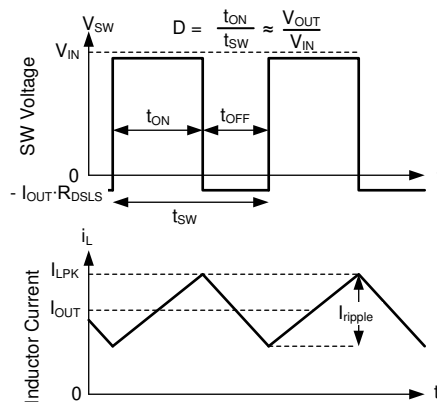

图 9-16. SW Voltage and Inductor Current Waveforms in Continuous Conduction Mode (CCM)
The following operating description of the LM61460-Q1 refers to 节 9.2 and to the waveforms in 图 9-16. In CCM, the LM61460-Q1 supplies a regulated output voltage by turning on the internal high-side (HS) and low-side (LS) NMOS switches with varying duty cycle (D). During the HS switch on-time, the SW pin voltage,  $V_{SW}$ , swings up to approximately  $V_{IN}$ , and the inductor current,  $i_L$ , increases with a linear slope. The HS switch is turned off by the control logic. During the HS switch off-time,  $t_{OFF}$ , the LS switch is turned on. Inductor current discharges through the LS switch, which forces the  $V_{SW}$  to swing below ground by the voltage drop across the LS switch. The converter loop adjusts the duty cycle to maintain a constant output voltage. D is defined by the on-time of the HS switch over the switching period: